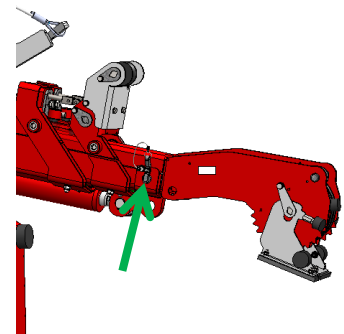

Figure: 36
- Attach it to the boom with the locking pin. Secure the pin (see *figure 36*).